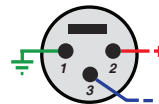

Figure 1: Controls and Connections
- Figure 1: Controls and Connections 3